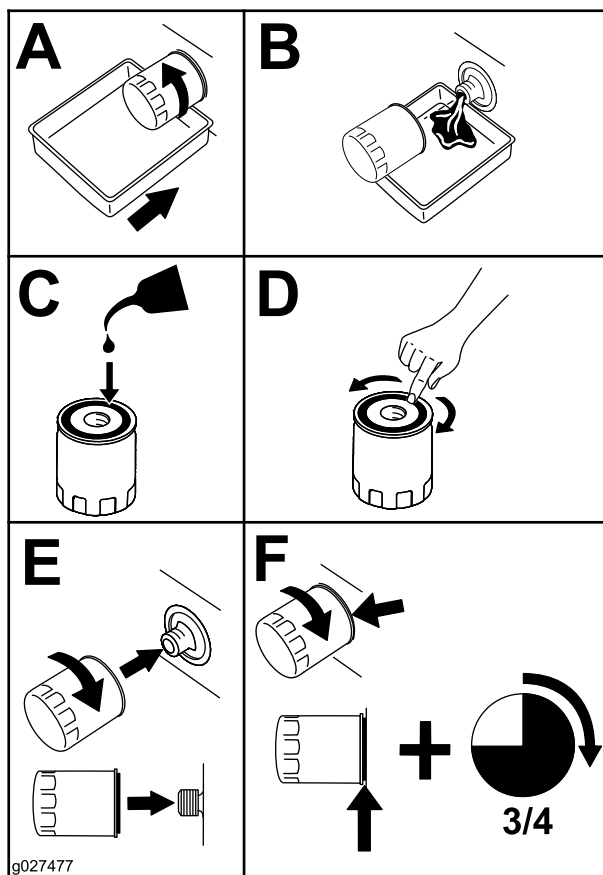

Figure 75
- Change the engine-oil filter (Figure 75).